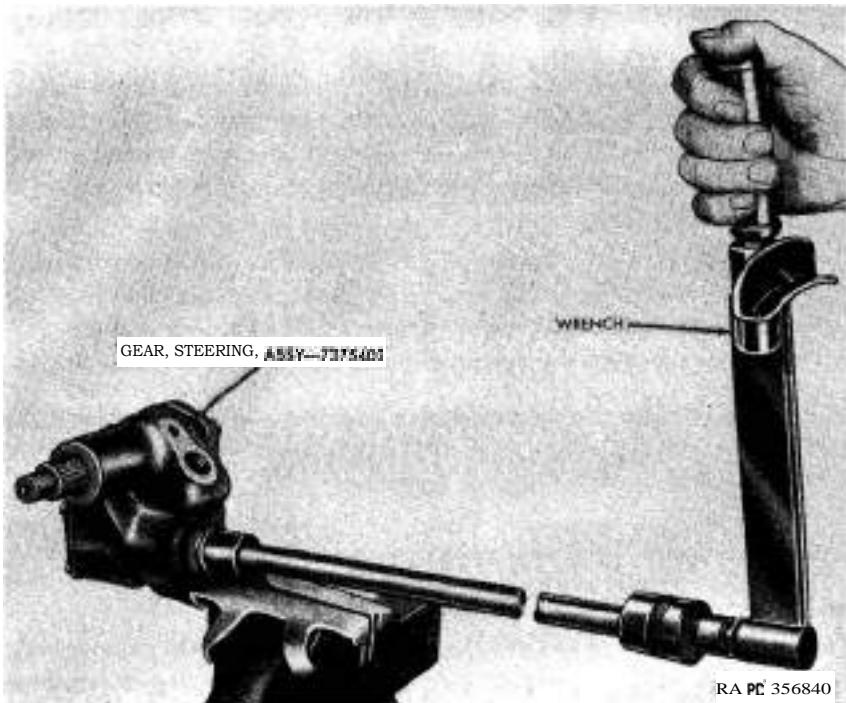
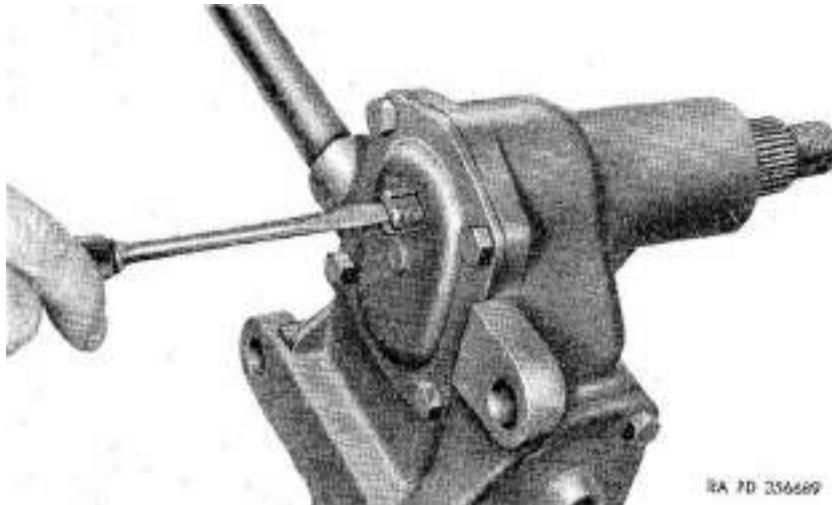

Figure 166. Checking preload of worm roller bearings with torque indicating wrench.
Figure 167. Adjusting backlash between worm and pitman arm shaft sector.
Check preload of worm bearings by rotating column shaft with a torque indicating wrench (fig. 166). Add, change, or remove housing lower cover shims until bearing preload conforms to the specifications in paragraph 349. Read torque indicating wrench while wrench is in motion to obtain accurate results.
- (2) Turn pitman arm shaft adjusting screw (G) out to increase backlash and in to decrease backlash (fig. 167). With worm positioned so that high spot is in contact with sector of pitman arm shaft, turn adjusting screw in until a drag is apparent as sector is moved across the high spot. Check drag with a pound-inches torque indicating wrench (fig. 166) and turn adjusting screw until drag conforms to the specifications in paragraph 349. Install pitman arm shaft adjusting screw lock plate (C) and make certain it indexes with button on housing cover. Install pitman arm shaft adjusting screw nut (B) and tighten.